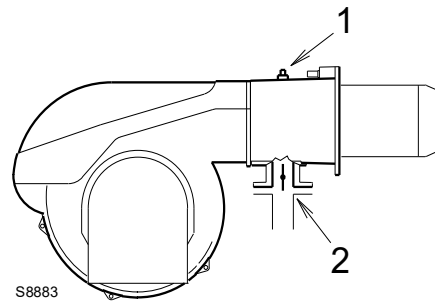

Fig. 23
Gas pressure measured at the test point 1)(Fig. 23), with:
Pressure loss at gas butterfly valve 2)(Fig. 23) with maximum opening: 90°.
- Subtract the combustion chamber pressure from the gas pressure measured at test point 1)(Fig. 23).
To know the required gas pressure at test point 1)(Fig. 23), set the maximum output required from the burner operation, then:
- Read, on the right (column 1) the socket pressure 1)(Fig. 23).
pressure required at test point 1)(Fig. 23).